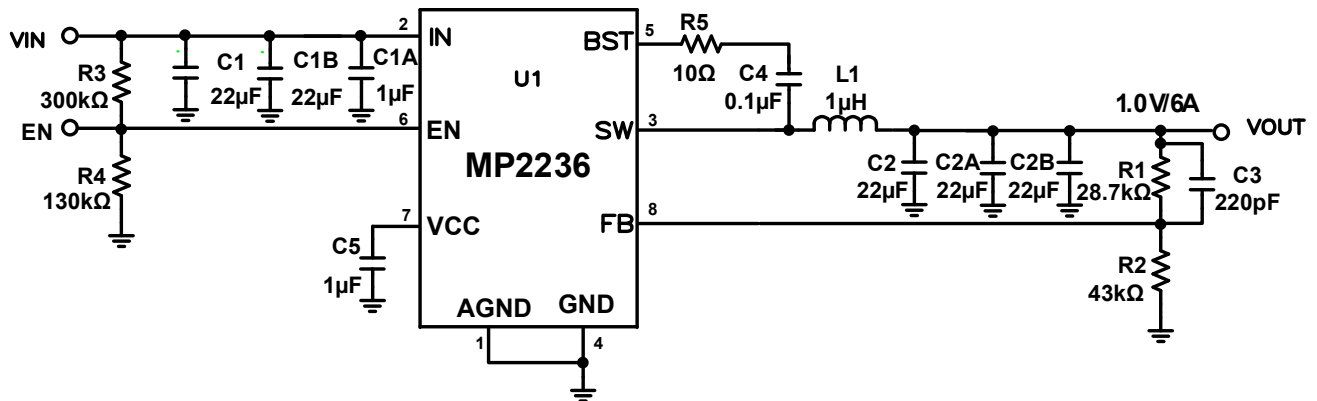

Figure 7: 12V V_{IN} , 1.0V/6A Output
The detailed application schematics are shown in Figure 7 through Figure 11. The typical performance and circuit waveforms are shown in the Typical Performance Characteristics section. For more device applications, please refer to the related evaluation board datasheets.
- 9) The recommended layout is based on the Typical Application Circuits shown in Figure 7 to Figure 11.